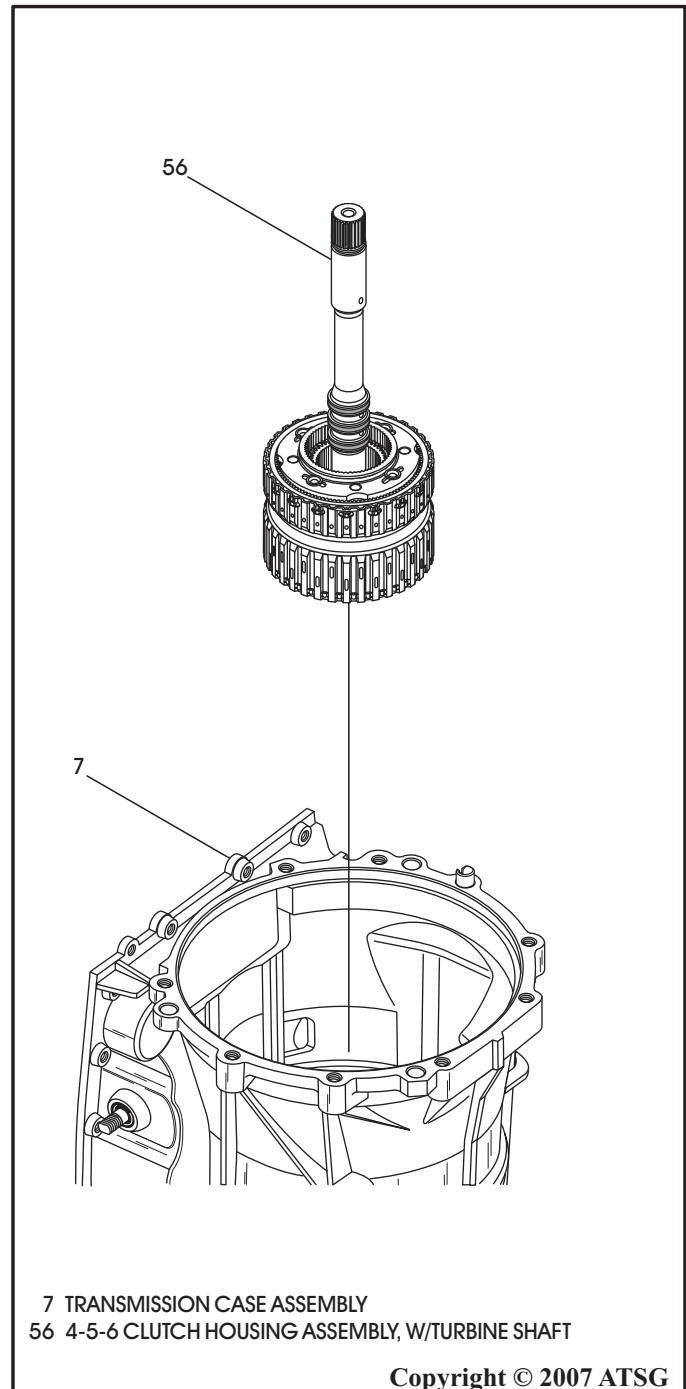

Figure 163
20. Install the 4-5-6 clutch housing assembly with carrier and sun gear into the case, as shown in Figure 163.